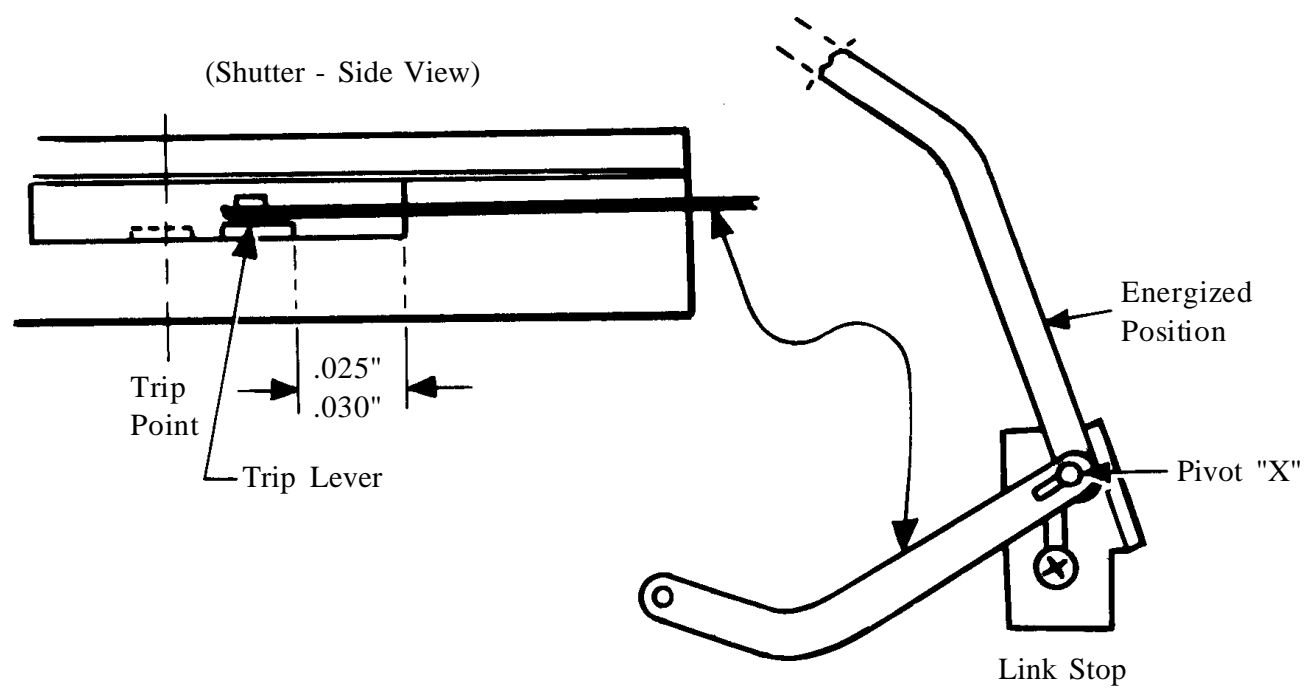

Figure 4-32 Setting Shutter Linkage
1.1 Loosen screw holding Shutter Link Stop and adjust its position to allow a gap of approximately 0.025" - 0.030" between the Shutter Trip Lever and end of the opening in the Shutter housing. (Fig. 4-32)